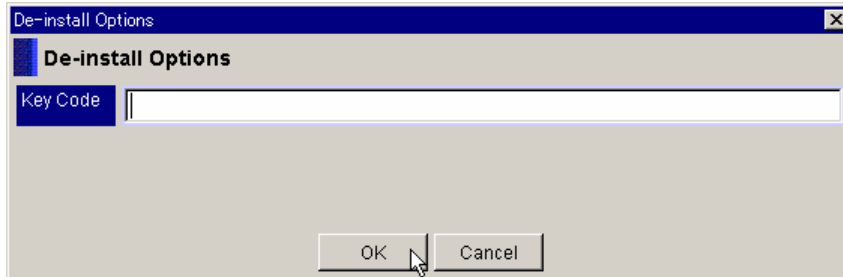

Figure 3.5 De-install Options Dialog Box
- The **De-install** button opens the **De-Install Options** dialog box (see Figure 3.5).